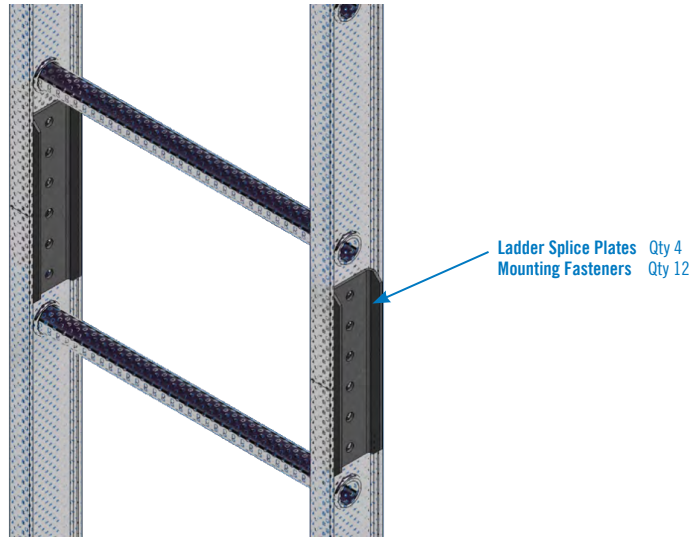

Figure 19.
6. Assemble ladder sections together using supplied hardware. The shorter ladder section will be installed towards the top of the unit. See **Figure 19**.